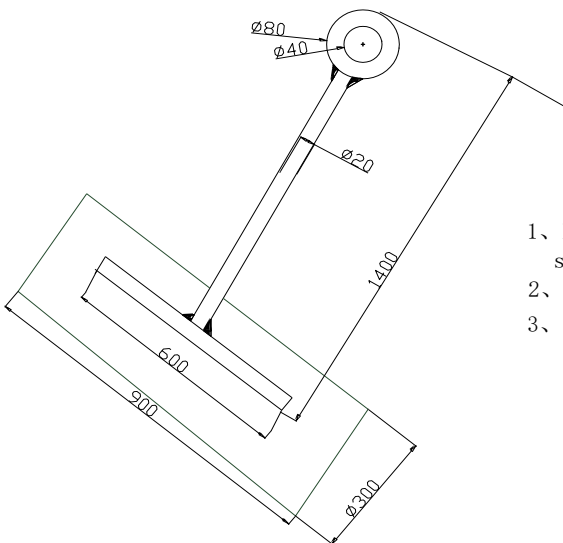

Figure2
4. The making and size of the upper tower is shown in figure 2. Its requirement: solid welding; no leak at the weld zone; the earth lug must be welded 20cm away from the ground(clearly visible). It will be connected to the lightning grounding device.
figure 2 wind turbine flange connection in the top of tower